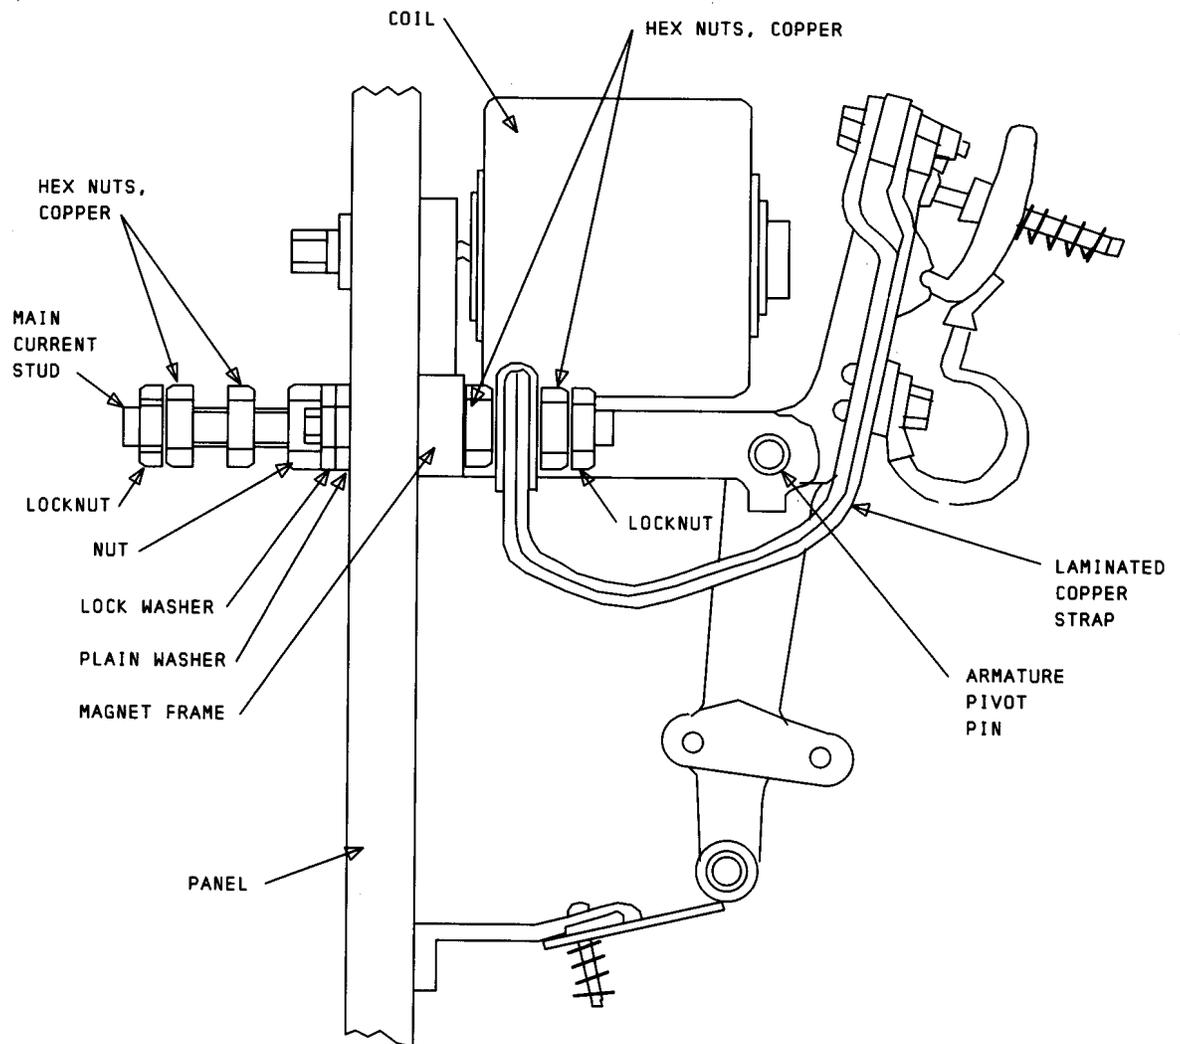

Fig. 5—Typical Nut and Stud Assembly for Main Current-Carrying Connection
(1) To check the temperature, hold the thermometer bulb against the brush, covering that part of the bulb not in contact with the brush with a small felt pad. If the temperature is high enough to cause the felt to smoke or char, asbestos on the face of the pad is suggested. If the temperature is too high, apply the following procedures.
(2) Check the condition of contact surfaces and contact pressures. (See 2.02 and 2.03.)
(3) Check the maximum load the contact is forced to carry. If it exceeds the ampere nameplate rating, the brush may lose temper and fail to give satisfactory operation. If overload cannot be avoided, refer to supervisor.
(4) Check the temperature of stud to bus-bar joint on rear of panel. If it is higher than the brush temperature, refer to the supervisor who may want to consider remaking external connections to the contactor. Also check the temperature of all bolted current-carrying connections on the front of the contactor panel. If temperatures are high, refer to (5) below.
(5) If heating of any of the associated parts of the contactor is experienced, the following procedure is recommended. First, measure the voltage drop across the made contacts of the laminated brush and the contact plate, measuring between the contact support structures. This should not exceed  $\nabla 0.0015 \nabla$  volt. Second, measure the drop across all current-carrying junctions of the contactor. A reading of over  $\nabla 0.0015 \nabla$  volt indicates a poor or loose connection; and the part should be disassembled, sanded lightly if necessary, cleaned with  $\nabla$ trichloroethane, $\nabla$  dried thoroughly, and reassembled.  $\nabla$ When reassembling use two copper nuts and one locknut, as shown in Fig. 5. Tighten nuts with appropriate wrench. Recheck voltage drop across the connection. $\nabla$